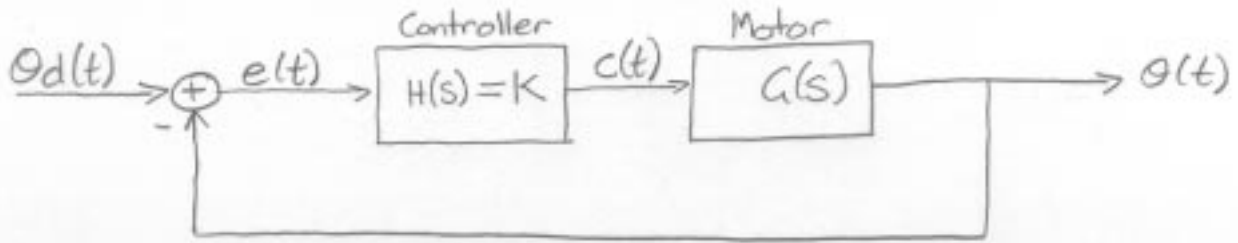
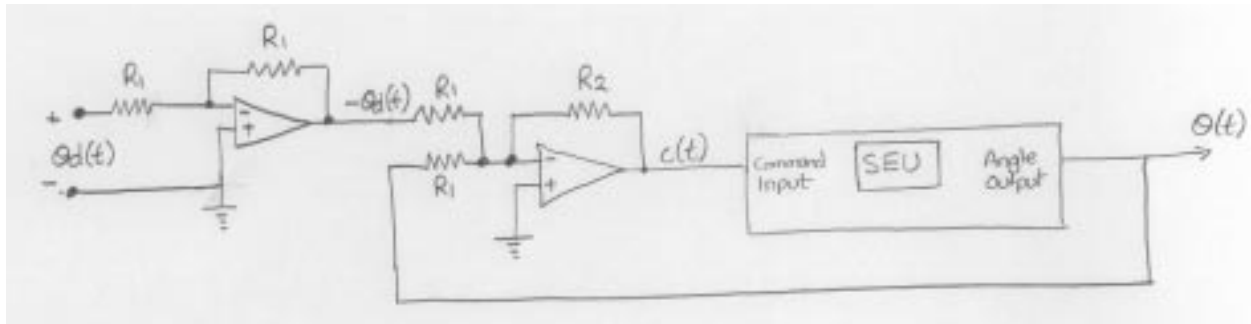

Figure 1: Unity feedback system with proportional control.
Figure 5: Closed loop circuit for experiments.
We will construct a stable closed loop by using a simple proportional controller, as shown in Figure 1.1 Since  $G(s) = \frac{A}{s(s\tau_m+1)}$  and  $H(s) = K$ , it can be shown that the closed loop
We will perform the above closed loop identification using two steps. First we will observe that by choosing  $K = 1$  in Figure 1 we obtain an appropriate overshoot. Then we will identify the peak frequency and peak gain.
Therefore, this circuit can be used to implement the summer and the proportional gain in Figure 1, as shown in Figure 5.
Use the following procedure to show that by choosing  $K = 1$  in Figure 1 we obtain an overshoot that is appropriate for the identification of the motor parameters.
- v) Turn off the signal generator and construct the circuit in Figure 5 with  $R_1 = R_2 = 10 \text{ k}\Omega$ . Test the resistances of the orange components you have been given using the multi-meter as an Ohmmeter and verify that they have  $10 \text{ k}\Omega$  resistance. You will need five resistors, four flat connectors and several cables to construct this circuit. (Do you really have to construct the inverter to produce  $-\theta_d(t)$  for the purposes of this experiment?).
- iv) Apply the generated signal to the circuit in Figure 5 and set the motor to enable. Display the angle output on the scope and measure the peak-to-peak output voltage  $\theta(t)$ . Hence calculate
Recall that  $K = 1$  generates 40% overshoot. If we specify a maximum tolerable overshoot of 25% then  $K$  must be reduced. Hence the value of the resistor  $R_2$  in Figure 5 must be less than  $R_1$ . Use (16) to determine the value of  $K$  required. Hence determine the value of  $R_2$  when  $R_1 = 100 \text{ k}\Omega$ .
- ii) Remove the inverting amplifier on the left of Figure 5 and apply the signal generator to the point marked “ $-\theta_d(t)$ ”.